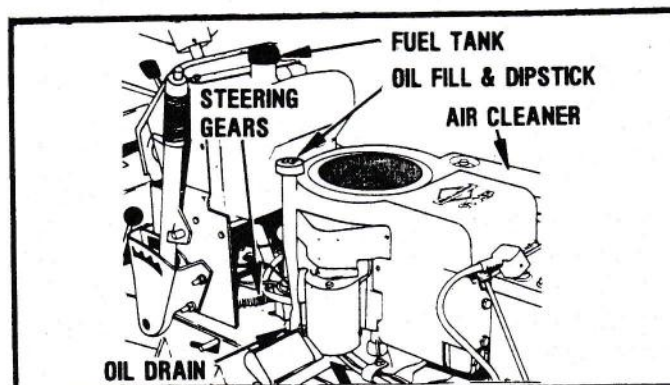

FIGURE 14
2. Drain crankcase by opening petcock or removing the drain plug (Figure 14) while the engine is warm. Allow the oil to run into a container.
Apply a light coat of multi-purpose grease to steering gears every 50 hours of operation. See Figure 14.